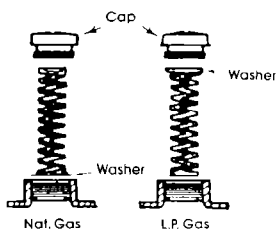

Figure 8
4. Remove the cap with screwdriver slot. Carefully remove the spring then the washer. Place the spring on the regulator first then the washer. Replace the cap over the washer and spring. Tighten cap. See Figure 8.